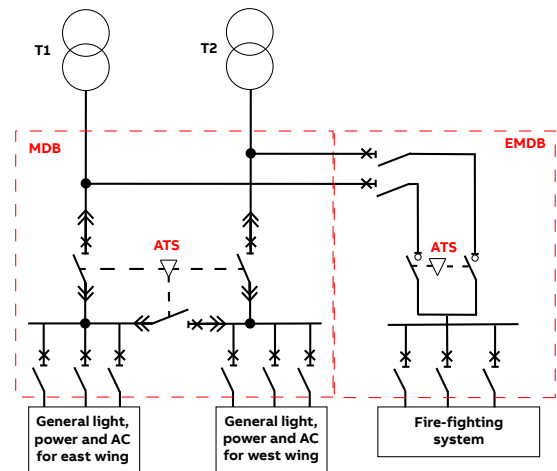

Figure 3. Circuit breakers used for protection when the ATS is the PC class.
2. Circuit breakers are used only for protection when the ATS is PC class (see Figure 3). This solution grants higher reliability compared to the one shown before, because a failure of circuit breakers based ATS will not lead to the failure of ATS equipment in general. Failure of CB class ATS might be associated with incorrect equipment assembly; for example, an installation of mechanical interlock, external motor operator and other accessories.